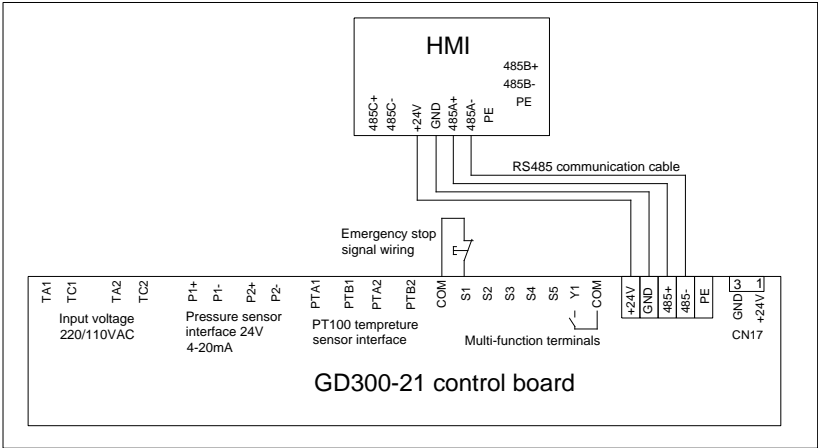

Figure B-15 Standard touch screen wiring diagram
**Note:** As shown in Figure B-15, the touch screen power supply interface is connected to the CN17 of inverter control board.